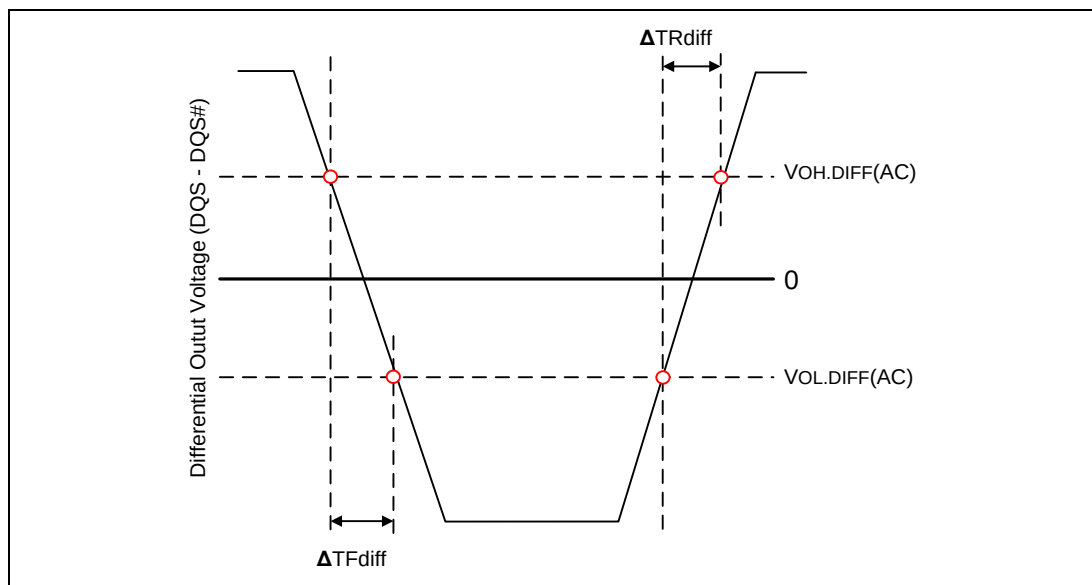

**Figure 95 – Differential Output Slew Rate Definition**
With the reference load for timing measurements, output slew rate for falling and rising edges is defined and measured between VOL.DIFF(AC) and VOH.DIFF(AC) for differential signals as shown in Table 28 and Figure 95.